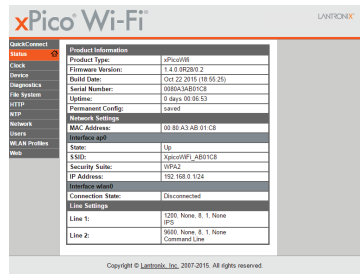

Figure 10: xPico WiFi Main Page
7. The XPico WiFi main page will open. Click on Quick Connect at the top of the menu and select the WiFi network to be used (e.g. H88d3). See Figure 10.